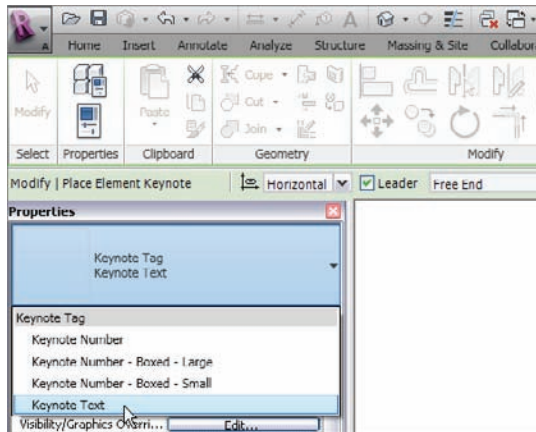

FIGURE 11.94 Choosing Keynote Tag > Keynote Text
- In the Type Selector, click Keynote Tag > Keynote Text, as shown in Figure 11.94.